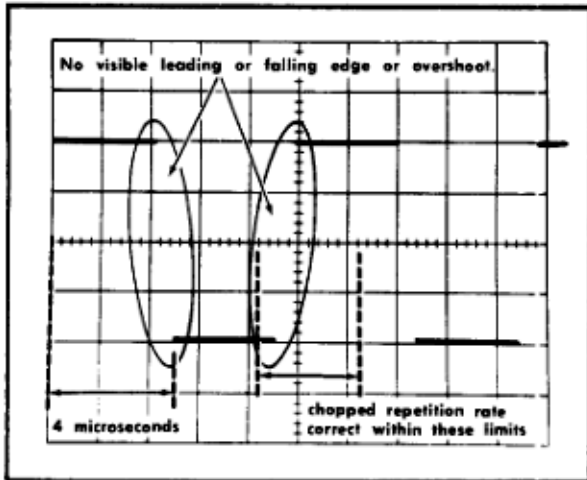

Fig. 6-52. Typical CRT display when checking chopped repetition rate and blanking. Sweep rate, two microseconds/division.
- b. CHECK—CRT display for duration of each cycle between 4.2 and 6.25 divisions (100 kilohertz, $\pm 20\%$; see Fig. 6-52).
- c. CHECK—CRT display for complete blanking of switching transients between chopped segments (see Fig. 6-52).